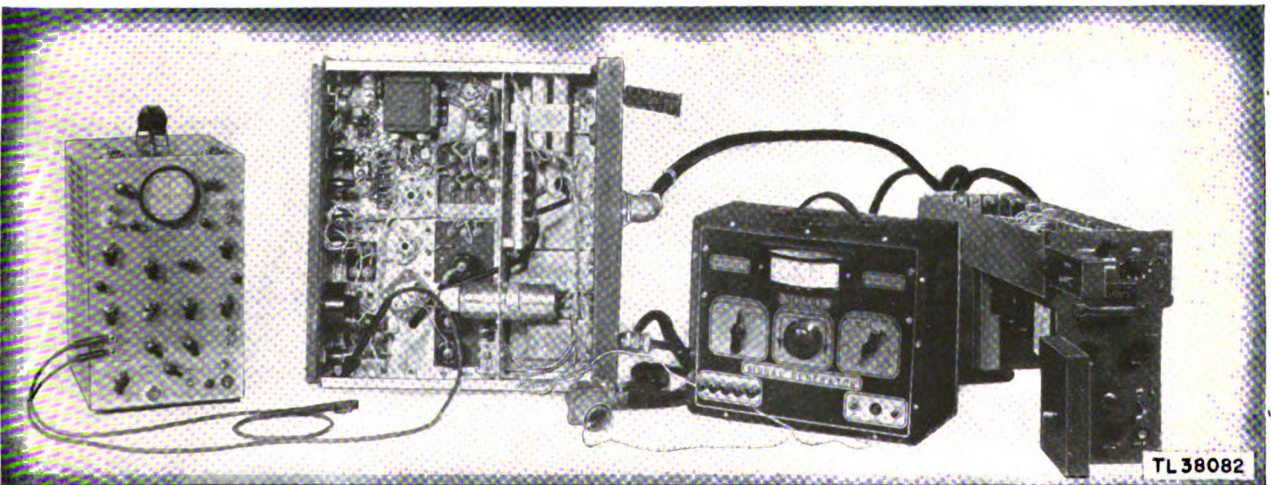

Figure 87. Transmitter set up for trouble shooting.
- (1) Interconnector (spare).
- (2) Cable 101 (spare).
- (3) Volt-ohmmeter.
- (4) Signal Generator (audio) I-192-A.
- (5) Modified test scope. A convenient arrangement of this equipment set up for trouble shooting may be seen in figure 87.